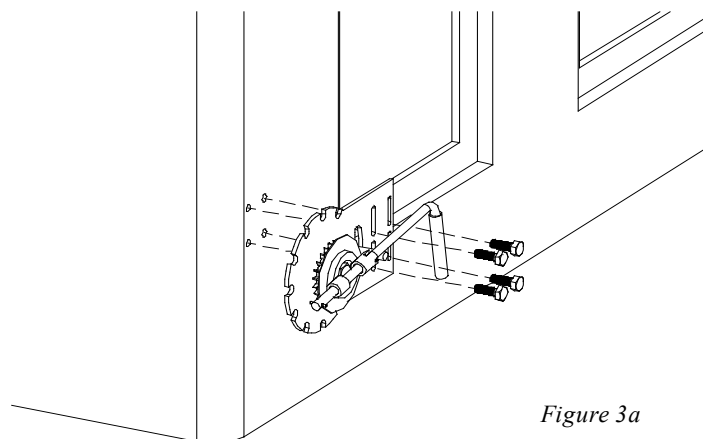

Figure 3a
**Installing the crank assembly for manual systems, see figure 3a.** After completing installation of the front pulley assembly the next step is to install the crank assembly. For manual systems, the crank assembly is mounted to the bulkhead or front post near the bottom of the trailer or body where it can be easily reached from the ground. For dump bodies and trailers with little or no corner radius the assembly may be mounted directly to the front post or the side of the bulkhead. However, if a corner radius is present then the assembly may be mounted to the bottom rail or flush mount fender (note: it may be necessary to fabricate a mount if no flush mount fender is present).